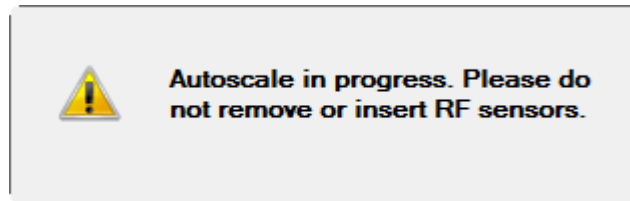

Figure 2-38 Autoscale notification dialog
- 2 When the autoscale function is running, a notification dialog is displayed as shown in Figure 2-38.